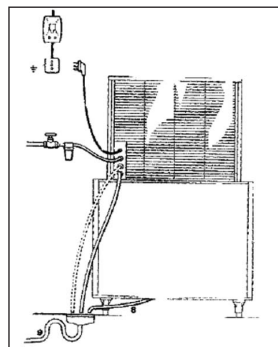

Fig. 9.
j) Connect the 3/4" Feeding pipe (supplied) to the machine and to the cold drinking water supply line. It is advisable to install a shut-off valve (not supplied) to the water feed pipe. If the feed water contains impurities, the installation of a filter system is recommended. If the water is particularly hard, i.e. rich in minerals and their derivatives, the application of a suitable water filter is recommended, preventing any scale deposits blocking the water circuit of the machine (Fig.9).